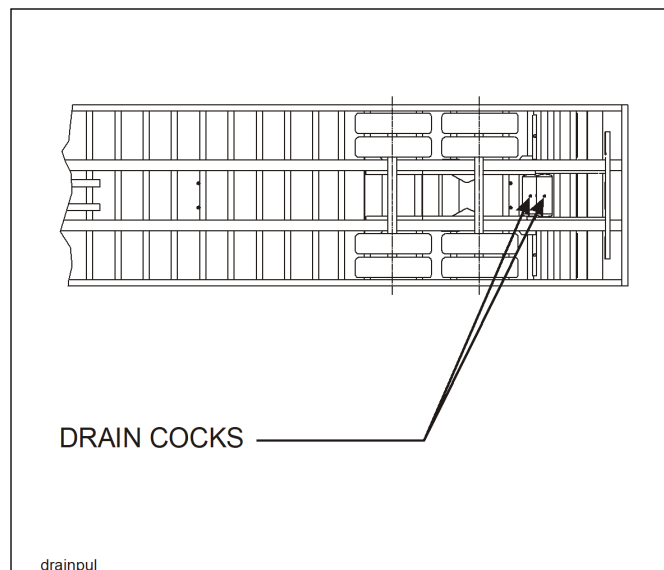

Figure 4-11: Drain Cock Locations
4. Drain air reservoir daily. A drain cock on the bottom of each air reservoir vents the tank to drain collected water and oil. If held open, air pressure in the tanks is relieved, causing the emergency or parking brakes to be applied (See Figure 4-11.)